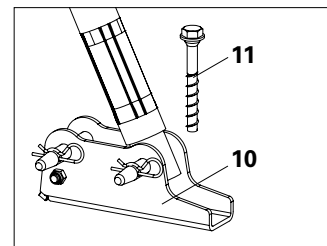

Fig. A3.01b
3. Fix Base Plate RSS (10) to the foundations by means of Anchor Bolts (11). (Fig. A3.01b)
4. Fix Push-Pull Prop to the Base Plate with bolts and cotter pins. (Fig. A3.01b)